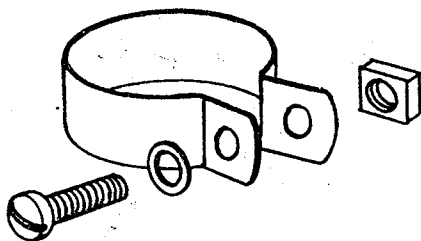

FIGURE 6
9. Assemble all 1-1/4" stainless steel clamps, using the 1-1/4"-20 x 3/4" filister head screws with flatwashers, lockwashers, and 1/4-20 square nuts as shown in Figure 6.